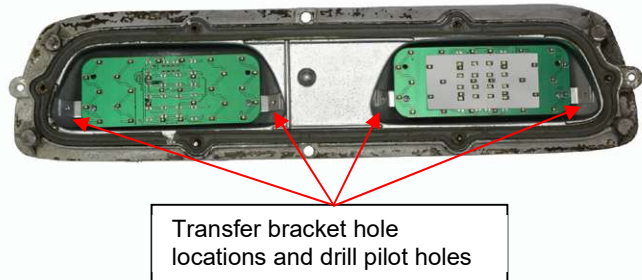

Figure 1
- 3.2. Assign each LED panel to the taillight chamber it will be mounted into. Place each panel within the appropriate light chamber with the aluminum brackets towards the bottom of the housing. Position the panels so they are centered within the chamber and using a marking pen, transfer the location of the mounting bracket holes to the housing. (See Figure 1)